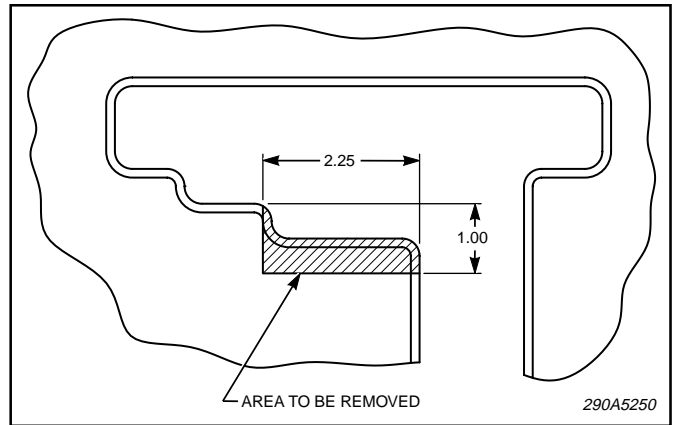

Figure 7.
7. See figure 7. Remove area indicated in the plastic panel (removed in step 2) as shown.